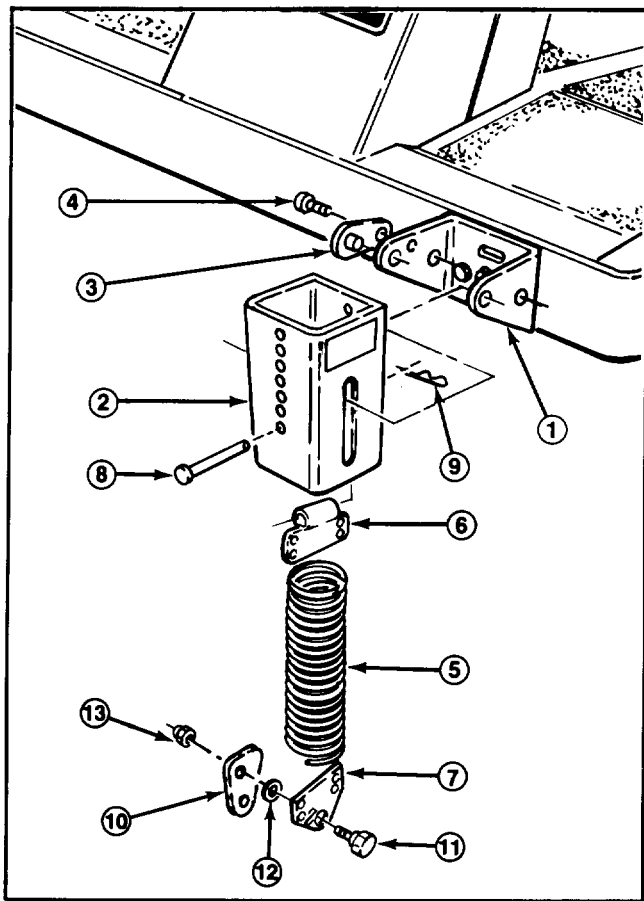

Figure 10
2. Thread the top extension spring coil into the top spring end holes and the bottom extension spring coil into the bottom spring end holes (Fig. 10).
- A. GM 220-D and 224 models — With wide part of knee link pointing rearward, secure it to outer side of lower spring end with a shoulder bolt, flatwasher and locknut. Flatwasher to be positioned between spring end and knee link (Fig. 10, 11).
- B. GM 220 models — With wide part of knee link pointing forward, secure it to outer side of lower spring end with a shoulder bolt, flatwasher and locknut. Flatwasher to be positioned between spring end and knee link (Fig. 10, 11).
5. Align slotted holes in the spring cover (slot toward the bottom) with the mounting bracket holes. Insert lock pin assemblies into the bracket holes and secure each to the bracket with self-tapping screws (Fig. 10). Torque the screws to 20 ft-lb.
6. From the bottom, insert the spring and top spring end into the spring covers. Select a hole that matches the cutter deck height-of-cut hole setting; i.e., top cover hole matches highest height setting, bottom cover hole the lowest, etc. Align the top spring end hole with the selected spring cover holes and insert the clevis pin to secure the spring inside the cover (Fig. 10). Secure the clevis pin with the hair pin cotter (Fig. 10).